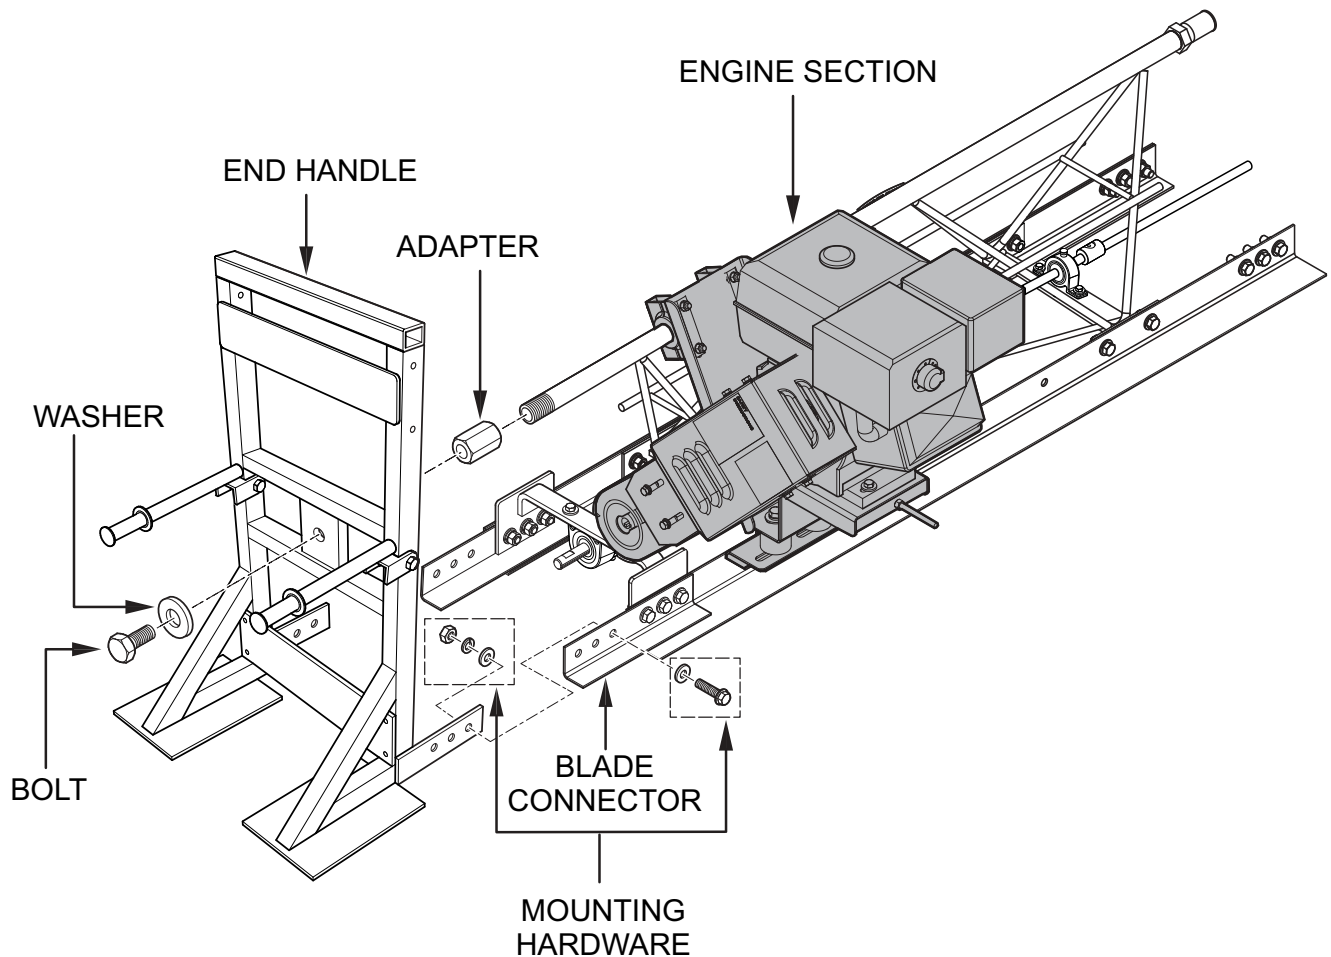

Figure 18. Mating End Handle and Engine Sections
1. The end handle and engine truss frame sections are pre-assembled. Simply connect one end of the engine truss frame as shown in Figure 18.